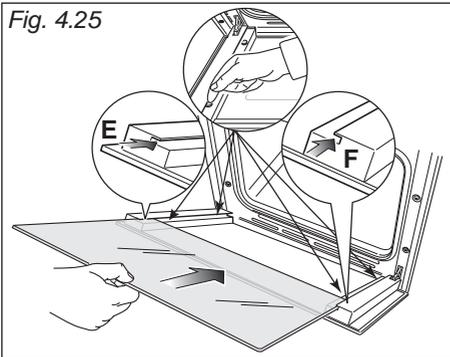
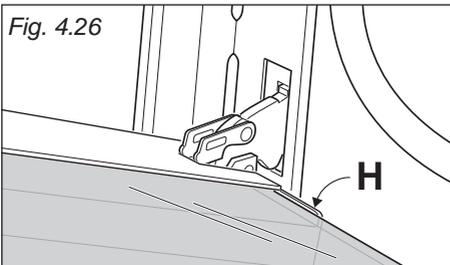

Fig. 4.25
Fig. 4.26
IMPORTANT: It is advisable, while refitting the glass, to keep pressed in position the four rubber pads "D", by a finger, to avoid breakage or slippage of the rubber pads themselves (fig. 4.25).
- Insert the pane in the left "E" and right "F" slide guides (fig. 4.25), and gently slide it to the retainers "H" (fig. 4.26).